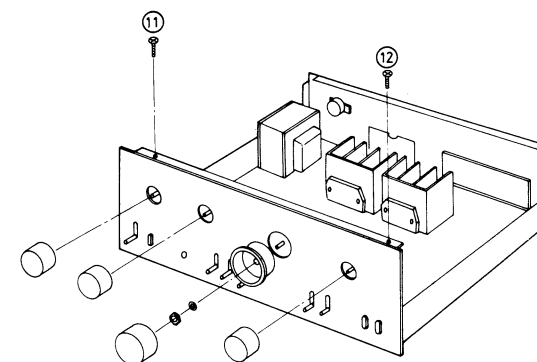

Fig. 3
4. Remove the two screws [fig. 3: ⑪~⑫] which hold the panel.